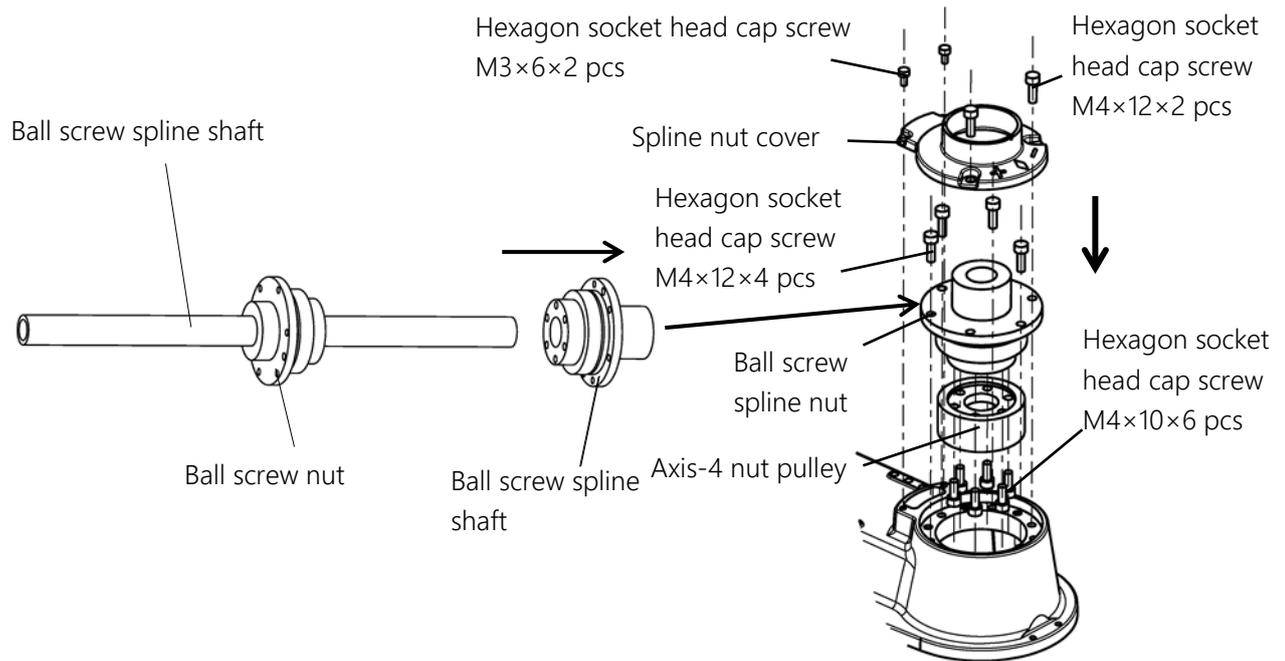

Fig. 7.42 Fitting the ball spline nut
- 3) Fit the ball spline nut to the arm 2 with the hexagon socket head cap screws (M4×12×4 pieces). (For the fitting positions of the hexagon socket head cap screws, see Fig. 7.42.) Fit it so that the arm-4 timing belt in the arm 2 is engaged with the pulley.
- 5) Secure the axis-3 nut pulley and upper stopper to the ball screw nut with the hexagon socket head cap screws (M4×25×4 pieces) and washers. Be careful about the fitting orientation of the upper stopper (see Fig. 7.42).